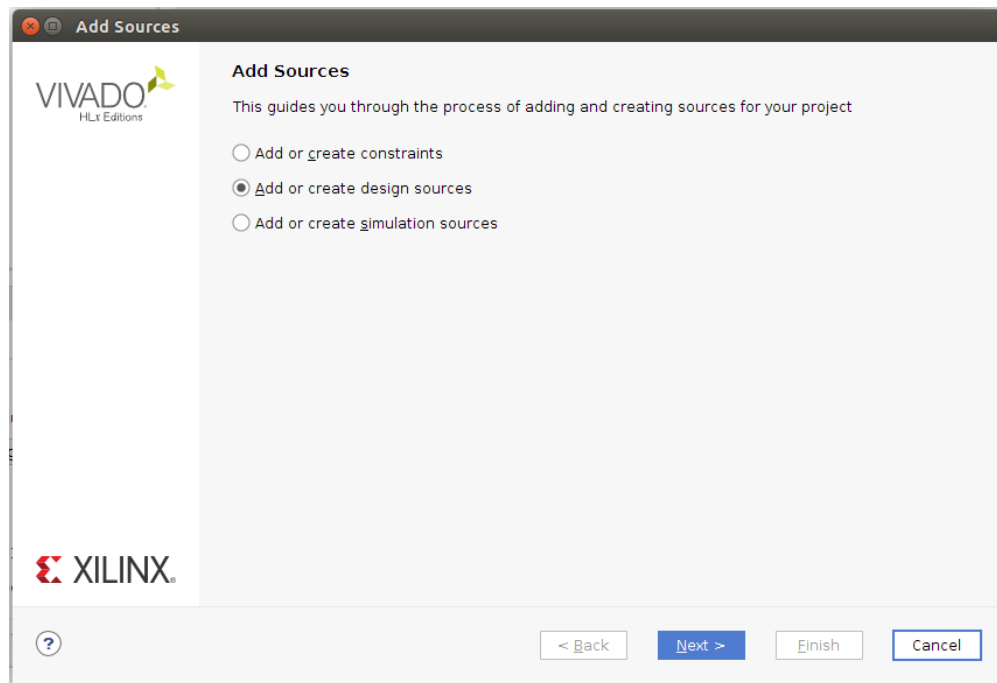

Figure 11: Open Hardware Target
2. Select Add or create design sources on the window that opens and click Next (i.e., Figure 11).